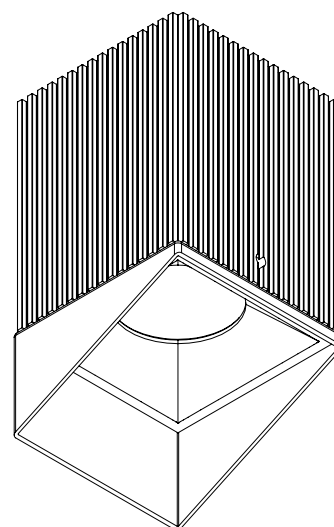

Fig. 3
3. Secure the **Trim** by screwing in the **Set Screws** (Fig. 3).